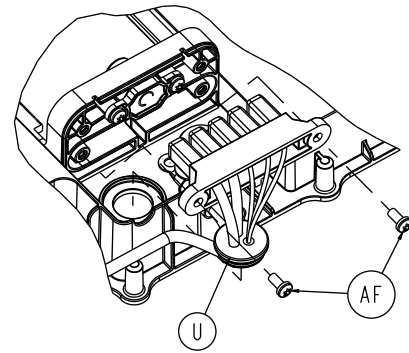

Figure 37 – Remove the battery power/comm cable assembly screws
7. Using a T20 Torx driver, remove the two pan head tapping screws (AF) that secure the battery power/comm cable assembly (U) (Figure 37). Save the screws.